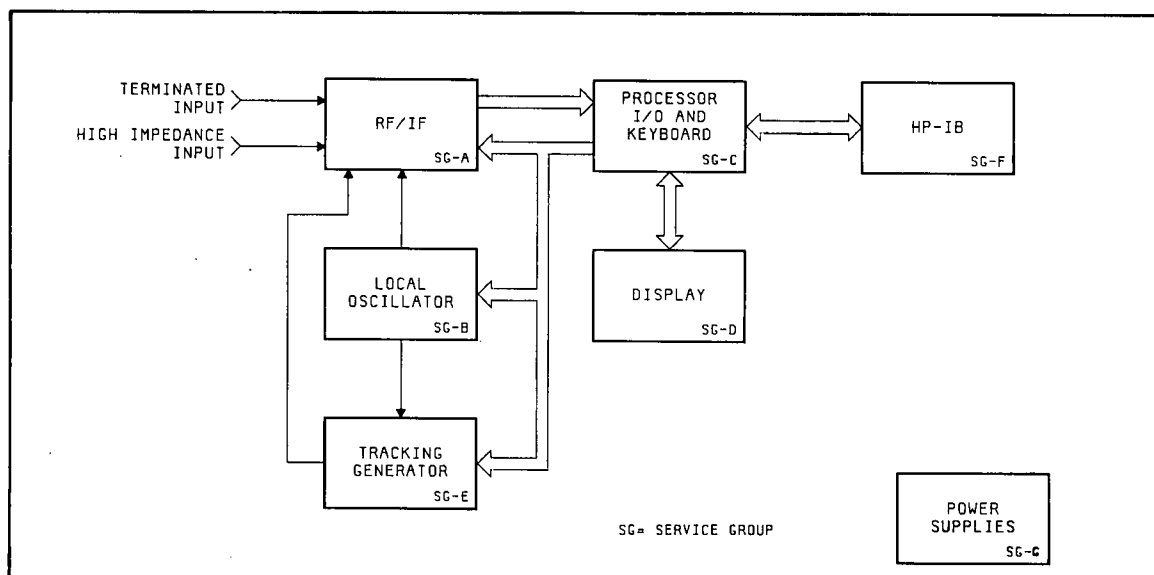

Figure 6-1. Circuit Functional Block Diagram
This section contains the functional descriptions of the Model 3585 Spectrum Analyzer circuits. Figure 6-1 illustrates the HP 3585 functional blocks and Figure 6-20 illustrates the detailed blocks.
Figure 6-1 is a circuit functional block diagram of the HP 3585 Spectrum Analyzer. Each block shown represents a group of circuitry known as a Service Group (SG). Service Groups represent a logical division of the instrument's circuitry into areas of related operation. This section on Circuit Functional Descriptions, and Service Information will be organized around the Service Groups shown in Figure 6-1, Circuit Functional Block Diagram. Figure 6-20, 3585 Detailed Block Diagram, contains much more detail and can be found at the end of this manual section.